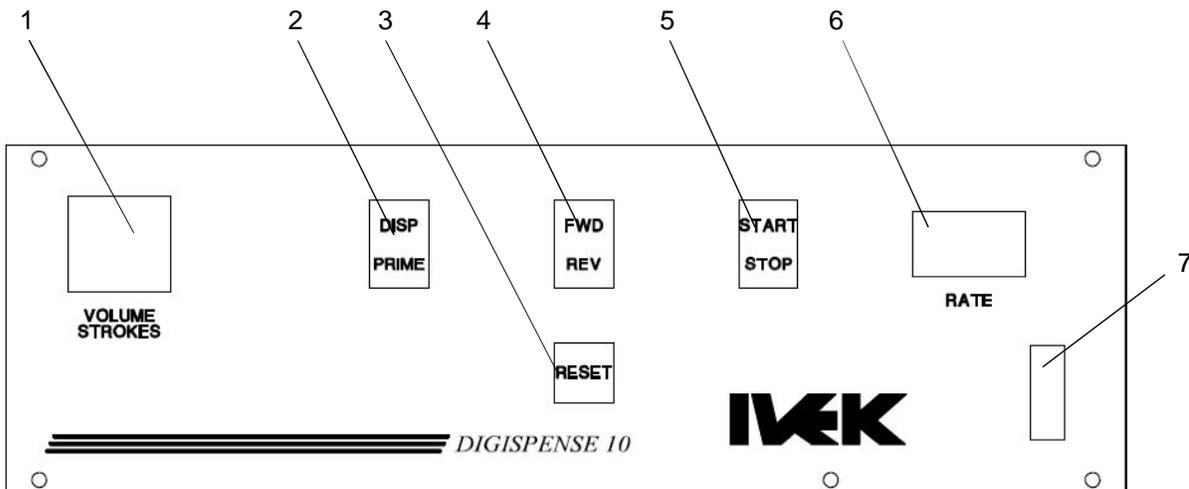

Figure 3.1 Digispense 10 Controller Module Front Panel
3.1.1 Front Panel Controls & Indicators (Figure 3.1)
3.1.1.1 VOLUME STROKES Pushwheel (Figure 3.1 Item 1)
3.1.1.2 DISP/PRIME Switch (Figure 3.1 Item 2)
3.1.1.3 RESET Switch (Figure 3.1 Item 3)
3.1.1.4 FWD/REV Switch (Figure 3.1 Item 4)
3.1.1.5 START/STOP Switch (Figure 3.1 Item 5)
3.1.1.6 RATE Pushwheel (Figure 3.1 Item 6)
3.1.1.7 1/0 Switch (Figure 3.1 Item 7)